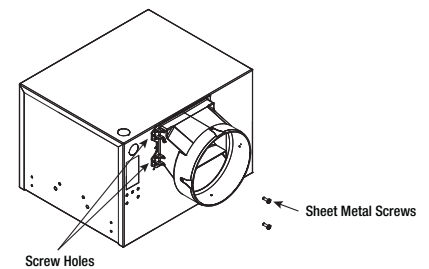

Figure 6 — Secure 6" Round Duct Connector
3. Secure duct connector to housing using holes and (2) original sheet metal screws, shown in Figure 6.